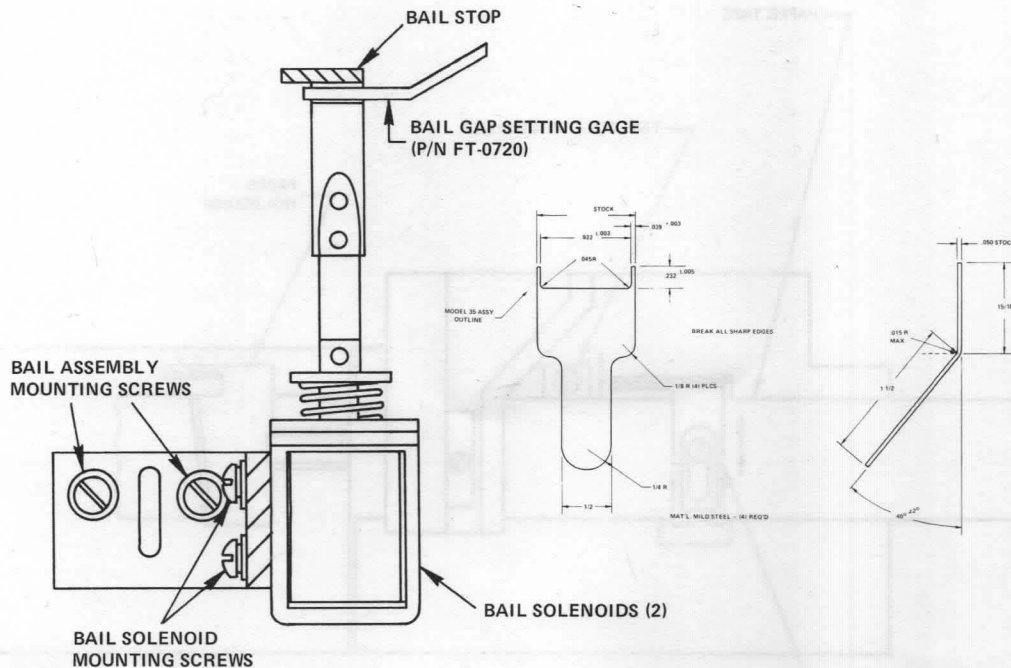

Figure 5-11 Bail Solenoid Adjustment
2. Loosen the two mounting screws on each bail solenoid (Figure 5-11).